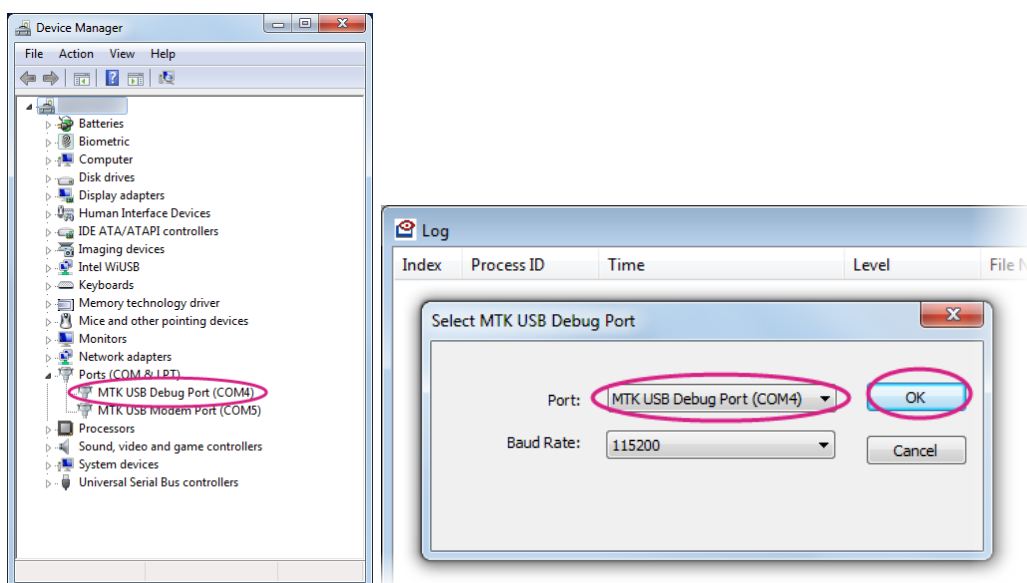

Figure 33 Device Manager COM port
- 2) Next, select the **COM** port, it is the MTK USB debug port listed in **Device Manager**, as shown in Figure 33. The port number varies between PCs. Click **OK**.